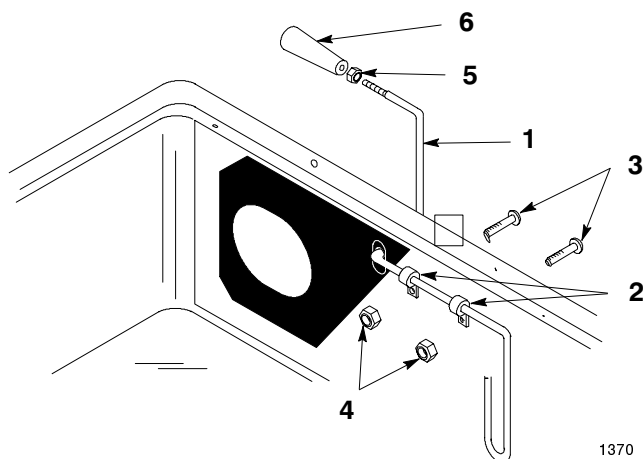

Figure 11
- Slide the threaded end of the indicator rod through (2) clips, then rubber seal and slot in cover (Fig. 11).
- Secure the clips to the cover with (2) 1/4 x 5/8" (16 mm) pan head screws and (2) 1/4" lock nuts (Fig. 11).
- Thread the jam nut and handle completely onto the threaded end of indicator rod. Rotate the handle so that the decal can be read from the operators position, then tighten the jam nut (Fig. 11).